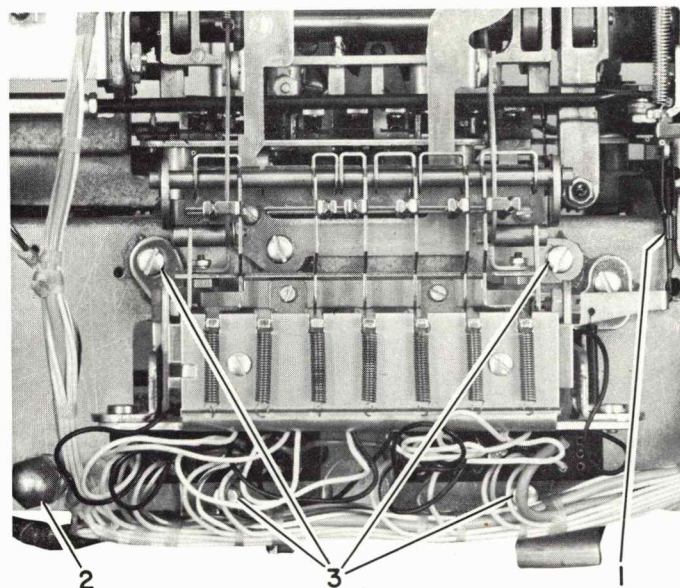

FIGURE 34. Print Magnet Assembly Removal
1. Disconnect the cycle-clutch trip link (#1, Figure 34).
2. Remove the support leg in the lower left corner (#2, Figure 34).
3. Remove the four mounting screws (#3, Figure 34).